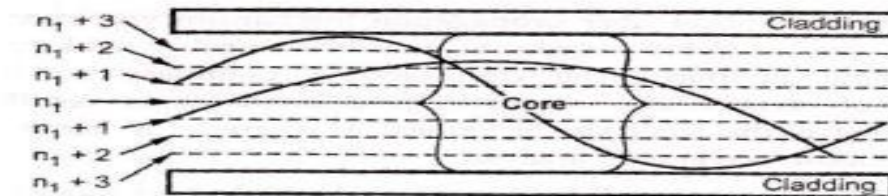

Fig. 1.6.19 Light trajectories in a graded index fiber
- Fig 1.6.19 shows the light trajectory in detail. It is seen that light rays running close to the fiber axis with shorter path length, will have a lower velocity because they pass through a region with a high refractive index.